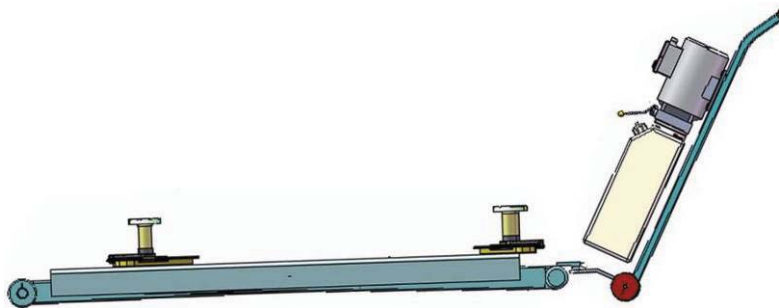

Fig. 18
4. Move the lift by the power unit stand **(See Fig. 18)**